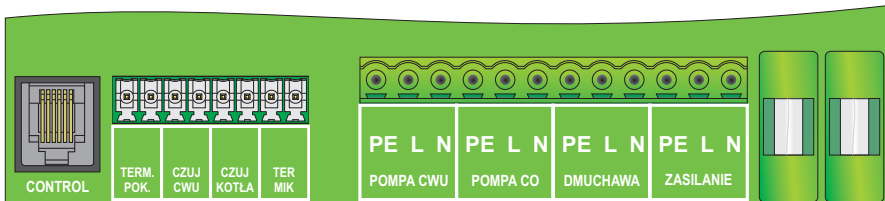

Fig. 3 View connections regulator
1. Connect the fan, pump and feeder with the appropriate power cables (see - Figure 3).